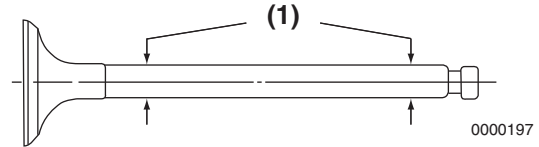

Figure 6-20
Use a micrometer to measure the valve stem diameter. Measure the valve stem near the combustion end and near the opposite end (**Figure 6-20, (1)**). See *Intake / Exhaust Valve and Guide* on page 6-7 for the service limit.